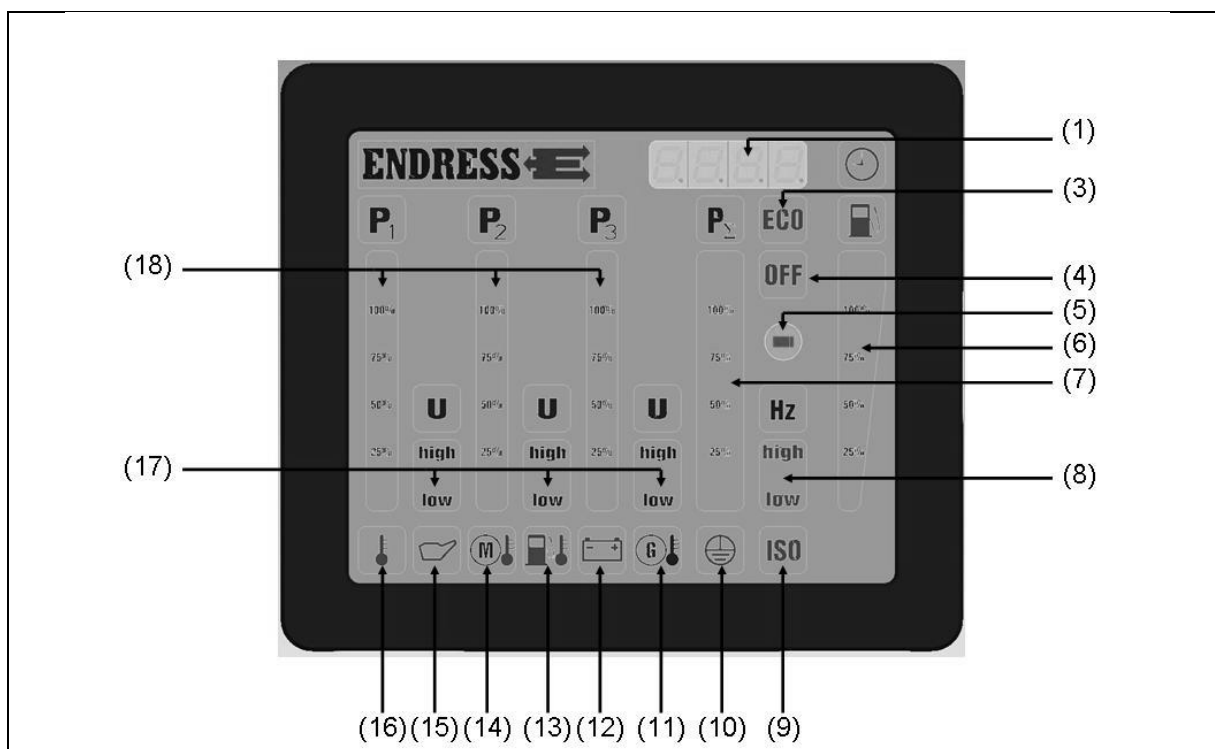

Figure 4-5: Multi-functional display
- ✓ The displayed symbol (see Figure 4-5-(8)) indicates the result:
- ✓ The displayed symbol (see Figure 4-5-(9)) and the position of the circuit breaker indicate the result:
- ✓ The displayed symbol (see Figure 4-5-(8)) and the position of the circuit breaker indicate the result: